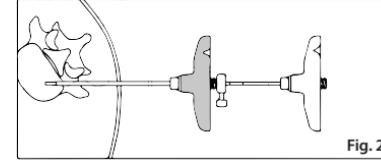

Fig. 2
FIG. 2 Insert the Filler (A) into the positioned Cutting Cannula (Preston Transpedicular Introducer) until the depth gauge on the Filler (A) comes into contact with the luer end of the Cutting Cannula.